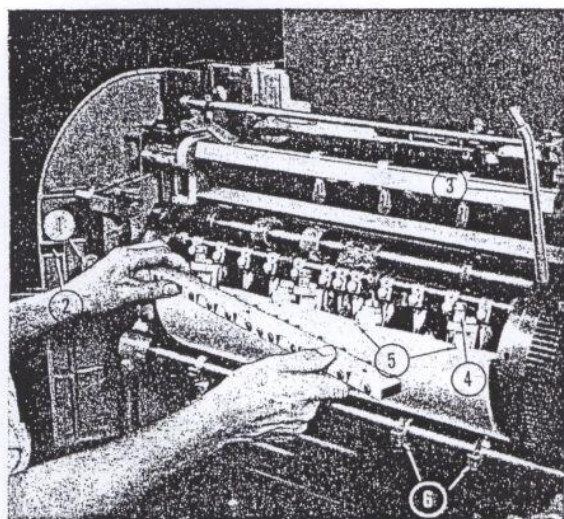
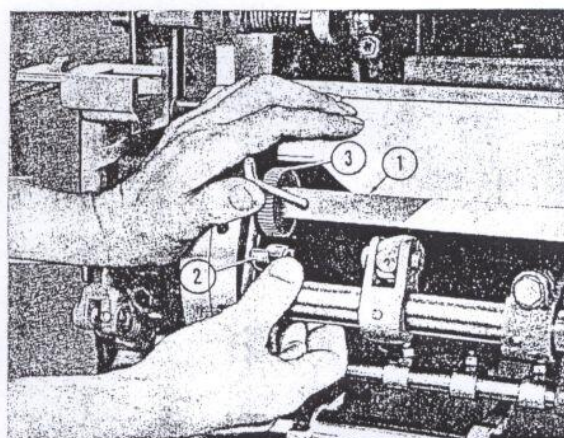

Figure 25—Removing Cylinder Packing
Figure 26—Tightening Cylinder Packing
(a) Run the press until the cylinder is approximately 1" below top center and the cylinder is on the down stroke. At this point the cylinder ratchet pawl lock collar spring pin (1) should be in line with the red alignment mark (2) on the cylinder end guard. (See figure 25).
(b) Open left cylinder end guard by lifting guard slightly and swinging it out. Pull out spring pin, (1) figure 25, thereby disengaging cylinder and permitting it to be revolved manually. *Do not turn press by hand when cylinder is disengaged.*
(c) Using large pin wrench, (3) figure 25, turn cylinder until it is in the position shown in figure 26.
(d) Using small pin wrench, turn reel rod (1) slightly until pawl (2) can be released from reel rod ratchet (3). (See figure 26.) Release draw sheet from reel rod.
(e) Turn cylinder until gripper bar is facing forward, loosen gripper bar clamp screws, (4) figure 25, using small pin wrench, permitting gripper bar to be removed from the cylinder (see figure 25). The packing sheets can now be removed from the pins, (5) figure 25, which secure the sheets to the cylinder.
(h) Turn cylinder, at the same time smoothing out packing, until the reel rod (1) is in position shown in figure 26. Tuck top draw sheet under reel rod, fold and tighten packing by turning reel rod with small pin wrench and then engage reel rod ratchet pawl in ratchet. (See figure 26.)
(4) HOW TO POSITION CYLINDER BANDS. —The five cylinder bands attached to the cylinder band tube (see (6) figure 25) serve to prevent sheets from contacting rollers. The band sockets can be moved along the tube and should be spaced so that the bands are positioned in blank margins.